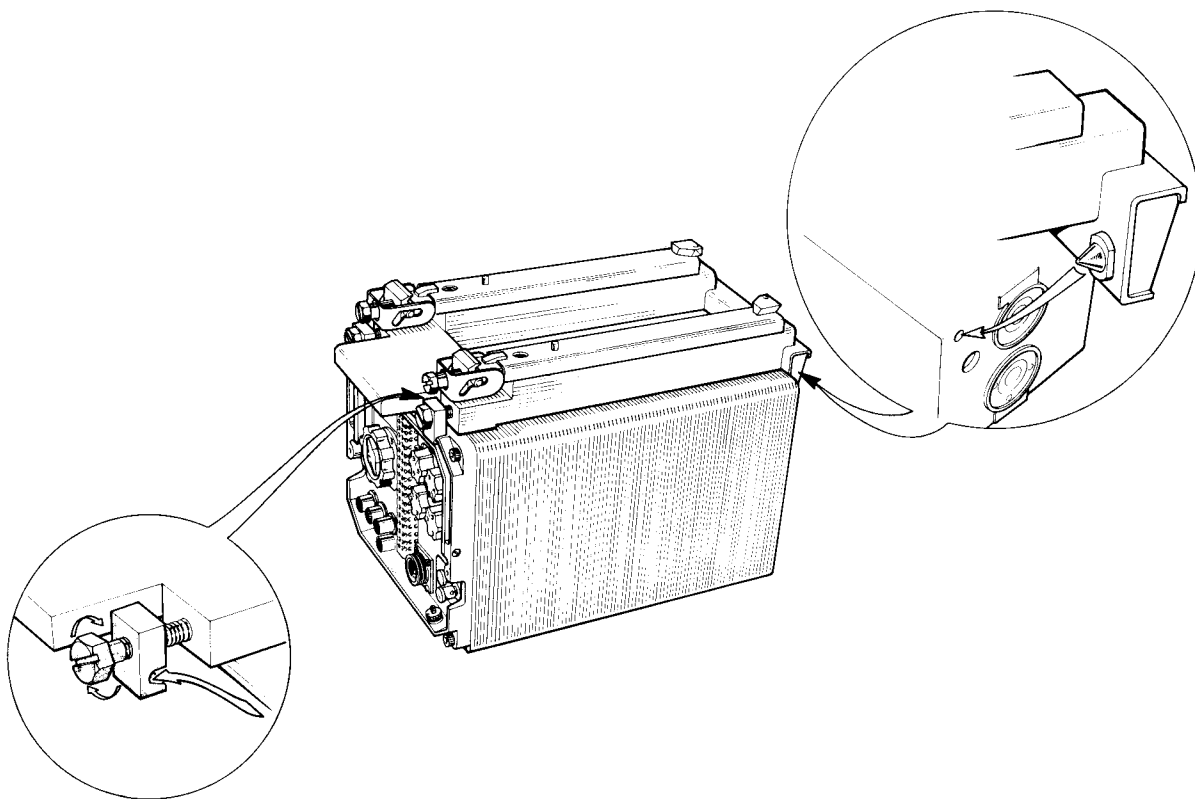

Fig. 7 Installation of frame, mounting electrical equipment
1. Secure the frame, mounting electrical equipment (5975-99-637-9502) to the top of the RT-353 as in fig. 7.